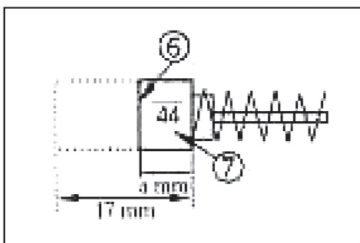

Fig 7
The motor employs carbon brushes that are consumable parts; since an excessively worn carbon brush could result in motor trouble, replace the carbon brush. Wear limiter (6) No of carbon brush (7). (See Fig 7)